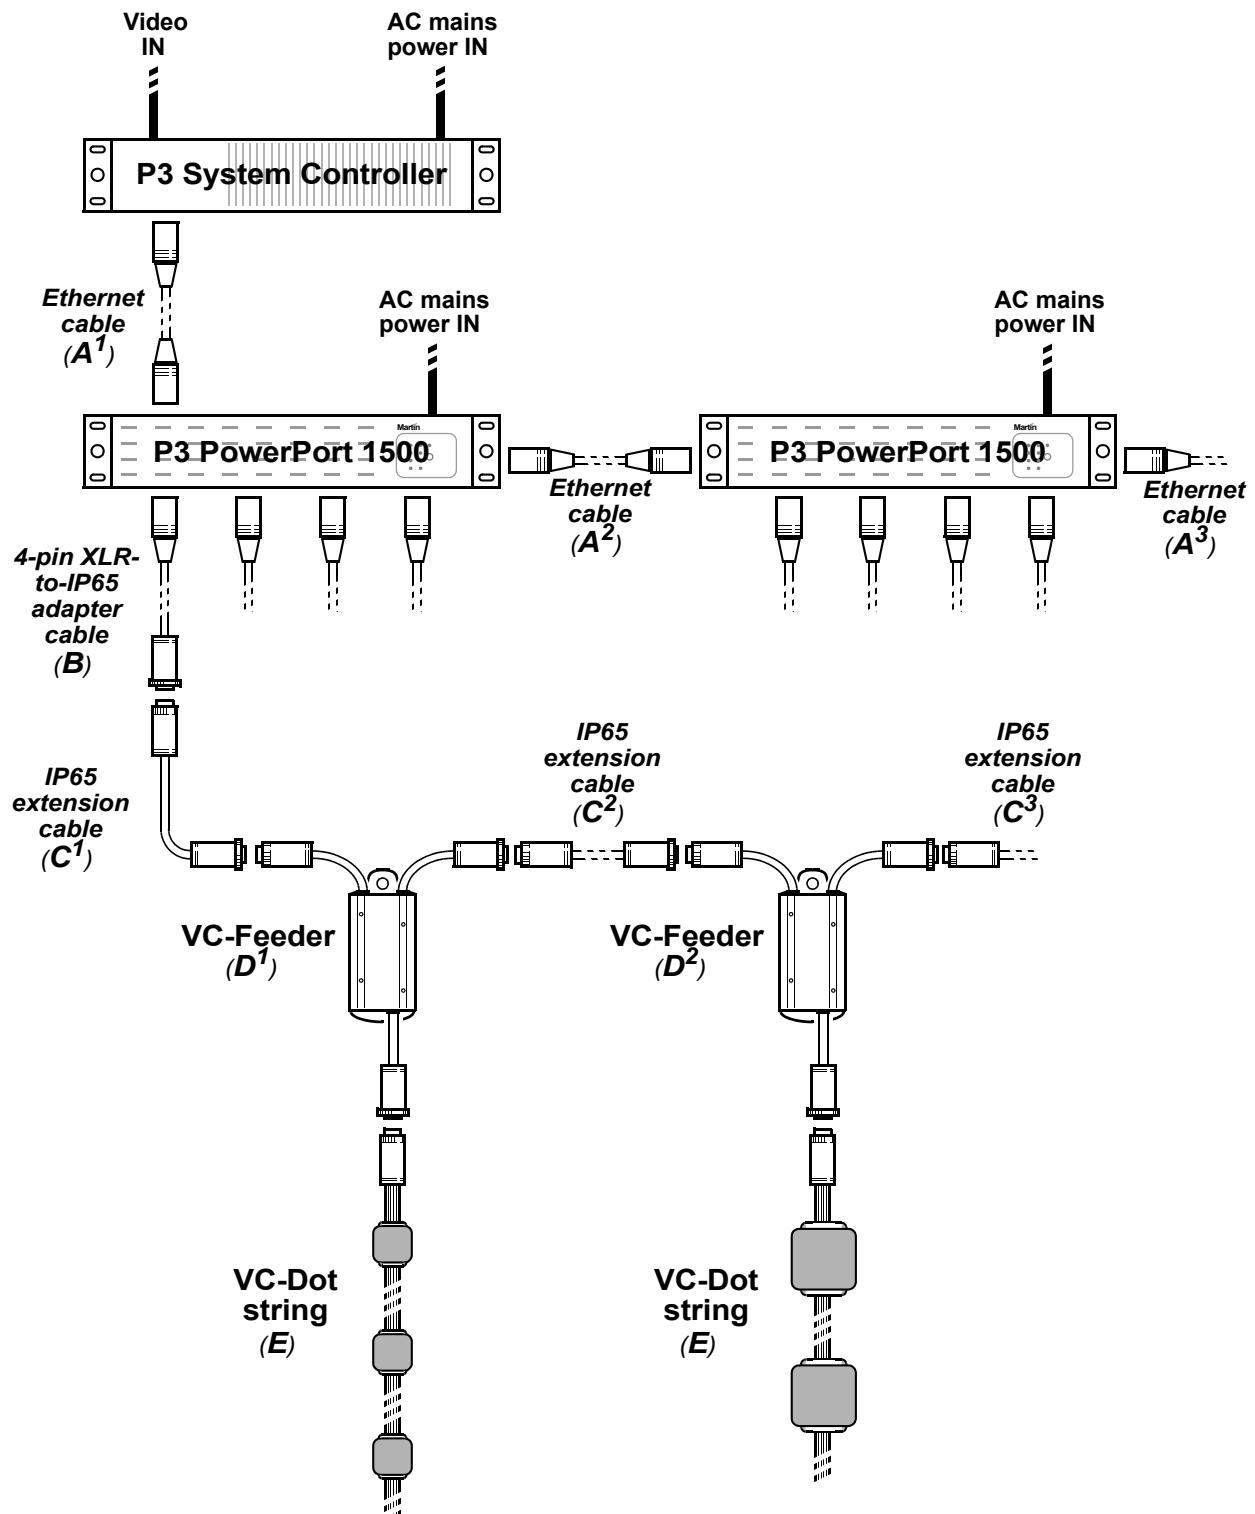

Figure 2: P3 video system layout
- a single VC-Feeder that is not linked to other VC-Feeders in a chain (C^1 in Figure 2 on page 11) or
- the last VC-Feeder on a chain of VC-Feeders (total of $C^1 + C^2 + C^3$ etc. in Figure 2 on page 11)
Figure 2 gives a schematic overview of a VC-Dots™ system for P3 video display.
Ethernet Cat 5e or better cable is required for the P3 video data link (**A** in Figure 2).
A P3 video data link cable run (**A** in Figure 2) between any two devices on the link can be up to 100 m (328 ft.) in length. If necessary, a cable run can be extended beyond 100 m by inserting an unmanaged Ethernet switch or using a fiber-optic system (see the P3™ system controller user manual for details).
You can connect up to fifty P3 PowerPort 1500s in a P3 data daisy-chain (**A** in Figure 2). If you need to connect more than fifty, use an unmanaged Ethernet switch to split the P3 data link into chains, each containing maximum fifty P3 PowerPort 1500s.
4. See Figure 2. Create a P3 video data link from the Martin P3™ system controller to a Martin P3 PowerPort 1500™ using Ethernet Cat 5e or better network cable **A¹**.
Figure 2 gives a schematic overview of a VC-Dots™ system for DMX-controlled lighting effects.